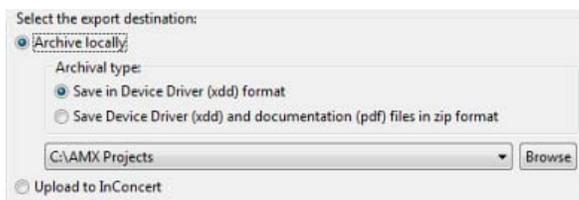

FIG. 82 Export Destination - Archive Locally options
2. Under *Select the export destination*, select to export the Device Driver to a local directory, or to InConcert: Select **Archive locally** to export the project file to the specified directory (FIG. 82):
- Under *Select the export destination*, select to export the selected projects to a local directory, or to InConcert. Select **Archive locally** to export the project file to the specified directory (FIG. 82):